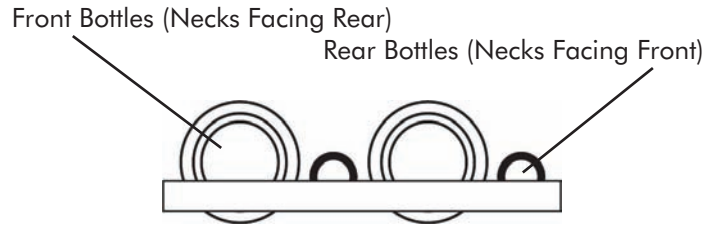

Figure 4
The wine rack roll-out shelf holds four (4) bottles. See Figure 4 for typical wine bottle orientation.